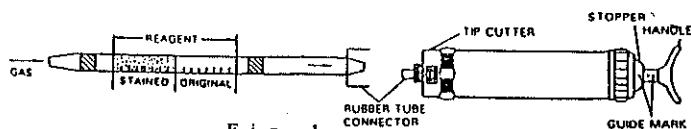

Fig. 1
- ② Insert the detector tube into aspirating pump securely as shown in Fig.1. (Arrow mark shall point to the pump.)
- ③ Align the guide marks on the shaft and stopper of the aspirating pump.
- ④ Pull pump handle to full stroke until it locks and wait for 1 minute or until confirmation that sampling is completed (See descriptions of the flow indicator in the pump instructions).